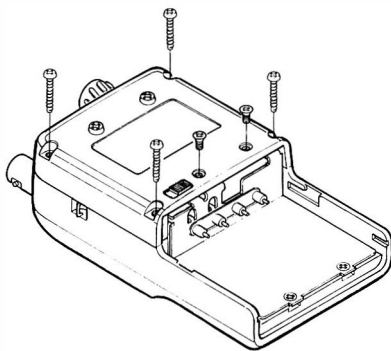

Figure 1.
- Lay the transceiver on a flat surface covered with a soft cloth to protect the front case from marring, and remove the six rear-panel case screws (Fig. 1).